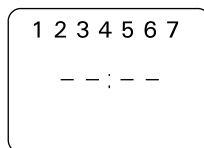

Figure 10.
- press the [Ch] - program button once to enter the program timings. The screen will then return to the mode as seen in the diagram. (Fig. 10)